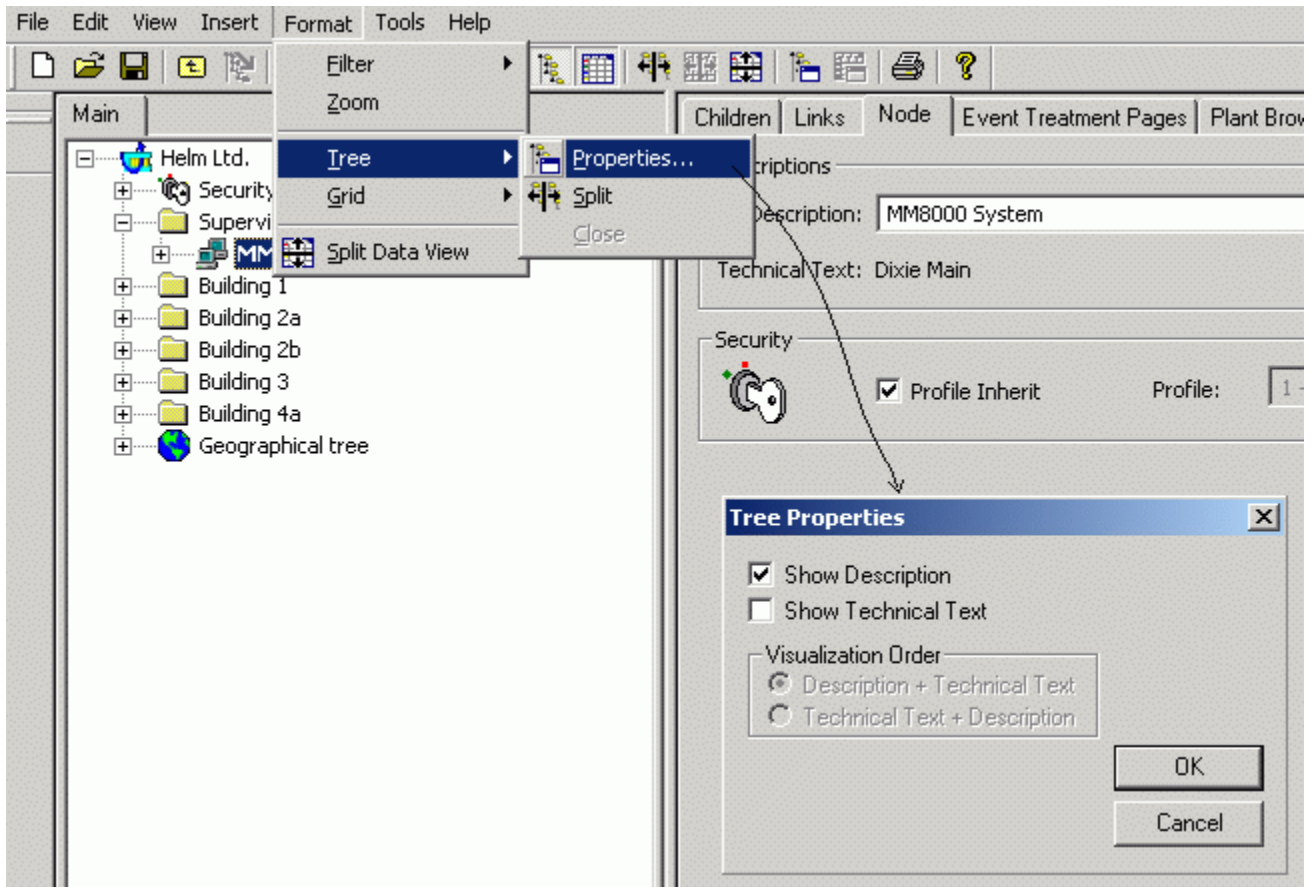

Fig. 11 Tree properties
**Note:** You can also set Composer to show the technical texts with or instead of the customer texts. Just start the menu command Format → Tree → Properties, and check or uncheck the corresponding options (see Fig. 11).